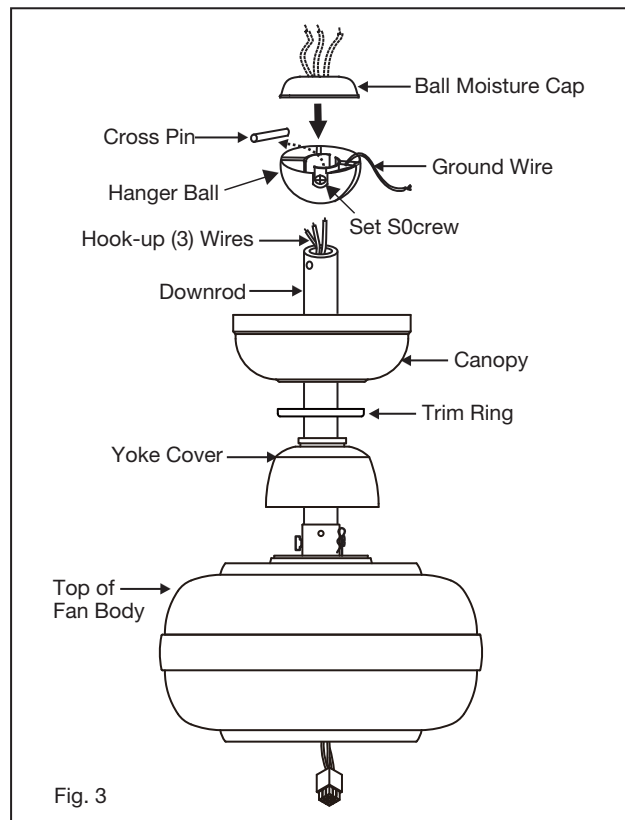

Fig. 3
- 6 Slip the yoke cover, trim ring and canopy onto the downrod. (Fig. 3)
- 8 Feed wires through holes in rubber ball moisture cap and slide cap down over top of ball. (Fig. 3)
Motor to Receiver Electrical Connections: (Fig. 3) Connect the black wire from the fan to the black wire marked "TO MOTOR L" on the receiver. Connect the white wire from the fan to the white wire marked "TO MOTOR N" on the receiver. Connect the blue wire from the fan to the blue wire marked "FOR LIGHT" on the receiver. Secure all the wire connections with the plastic wire nuts provided.
Receiver to House Supply Wires Electrical Connections: (Fig. 3) Connect the black (hot) wire from the ceiling to the black wire marked "AC in L" from the receiver. Connect the white (neutral) wire from the ceiling to the white wire marked "AC in N" from the Receiver. Secure the wire connections with the plastic wire nuts provided.
If your outlet box has a ground wire (green or bare copper) connect it to the fan ground wires; otherwise connect the hanging bracket ground wire to the mounting bracket. Secure the wire connection with a plastic nut provided. After connecting the wires, spread them apart so that the green and white wires are on one side of the outlet box and black and blue wires are on the other side. Carefully tuck the wire connections up into the outlet box. (Fig. 3)